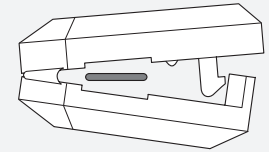

Figure 27. Spoke Slot and Clasp.
2. Close the magnet so that the spoke is in the tunnel through the magnet (Figure 27). Squeeze the magnet until the clasp is engaged.